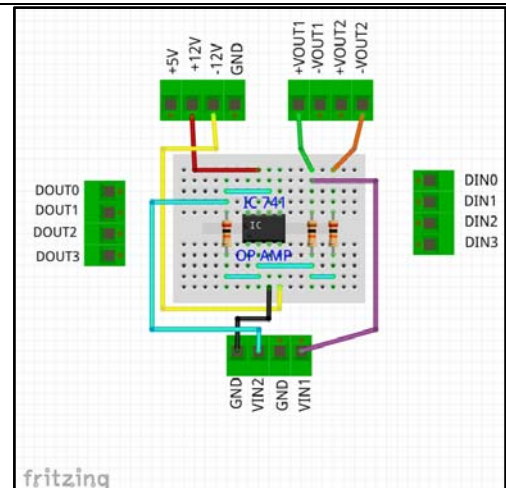

Fig 30. Test Setup
1. Connect the Operational Amplifier using IC LM741 along with +12V/-12V supply and ground using the setup shown in Fig 30.